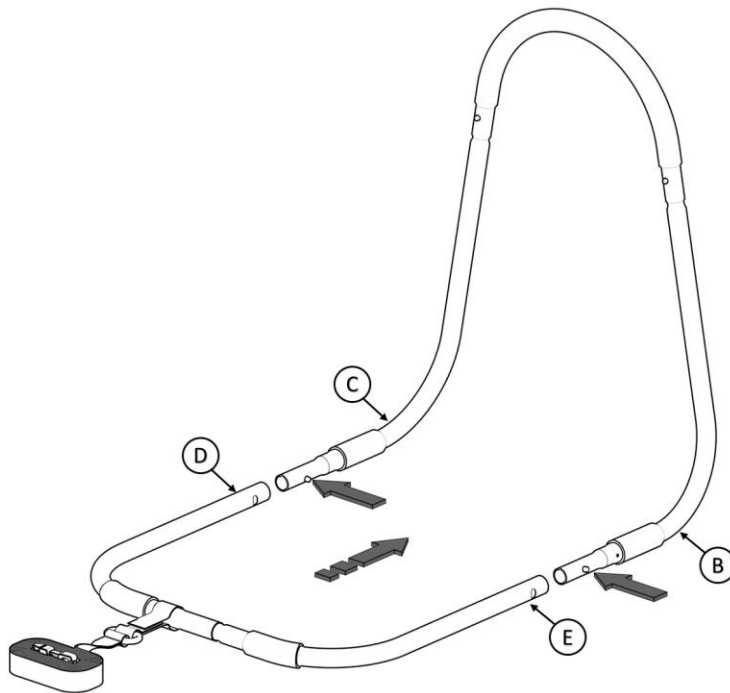

FIGURE 4
4. Attach **B** and **C** to **D** and **E** as shown in *FIGURE 4* until spring pin engages.